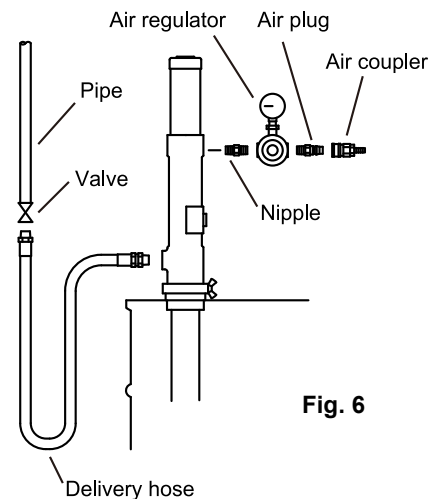

**Fig. 5**
2. Set the pump onto the bracket, support with the pump fixing band, and fix with accessory bolts. When this is done, tighten the bolts to such an extent that the pump will not rotate (The tightening torque is 12N · m or less). If tightened too much, the plunger in the suction tube will not work. (Fig. 5)